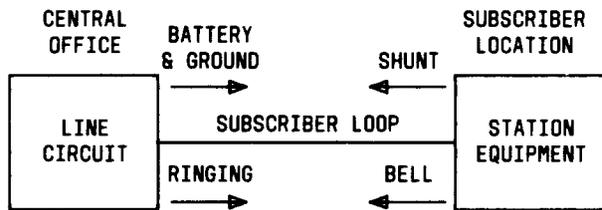
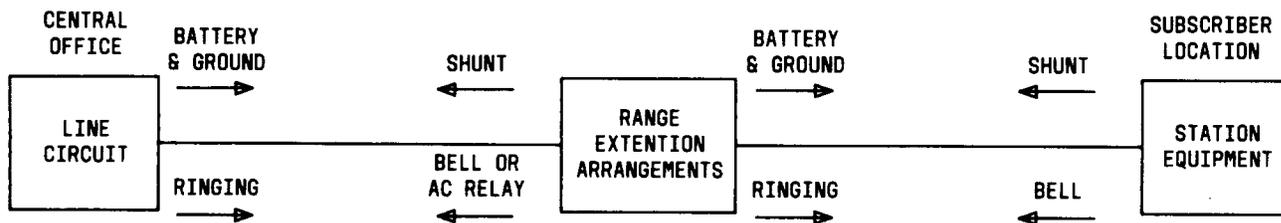

Fig. 2—Normal Operating Range
Fig. 3—Extending the Operating Range
**4.01** When the distance between the station and the CO line circuit exceeds the normal (Fig. 2) operating range, an auxiliary circuit must be inserted between the two. The auxiliary circuit must provide the same conditions to the station as the line circuit, while providing the same conditions to the line circuit as the station. (See Fig. 3.)